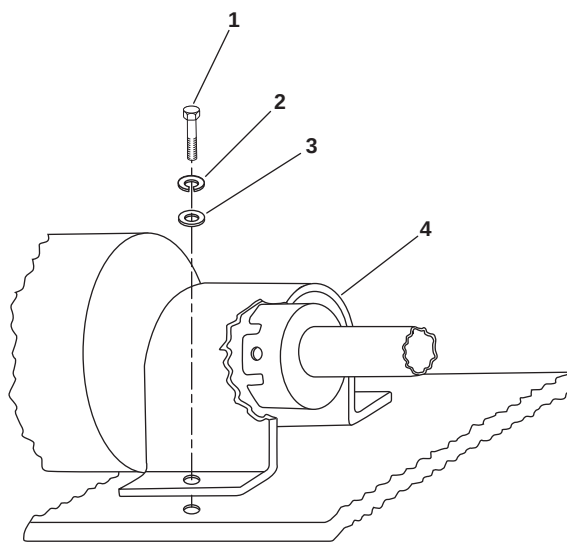

Figure 2. Coupling Guard
5. Remove the two bolts (figure 2, item 1), the two lockwashers (figure 2, item 2), and the two flat washers (figure 2, item 3) from the coupling guard (figure 2, item 4). Discard the lockwashers.
6. Remove the coupling guard (figure 2, item 4).